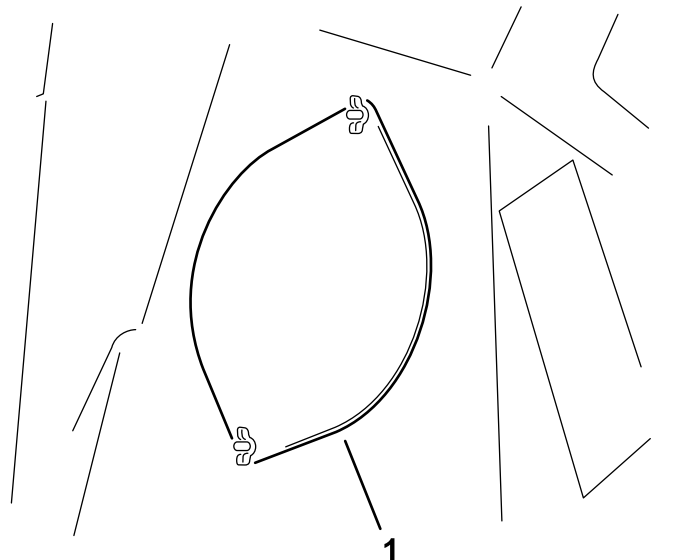

Figure 31
3. Loosen the 2 wing nuts securing the access plate (Figure 31).